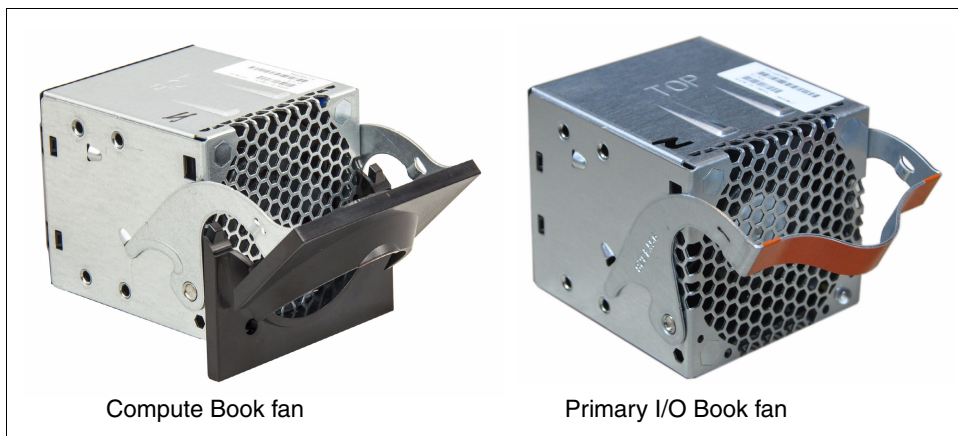

Figure 20 Compute and Primary I/O Book fans
- ▶ A failed fan pack on a system causes it to fail to power on. If you have a fan installed and the system fails to power on, remove the fan pack (Figure 20) and validate that the power connector on the fan has not come loose.